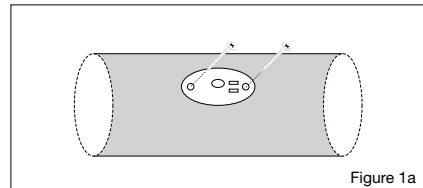

Figure 1a
- 3) Mount the ange on the duct with screws (not included), Figure 1a.